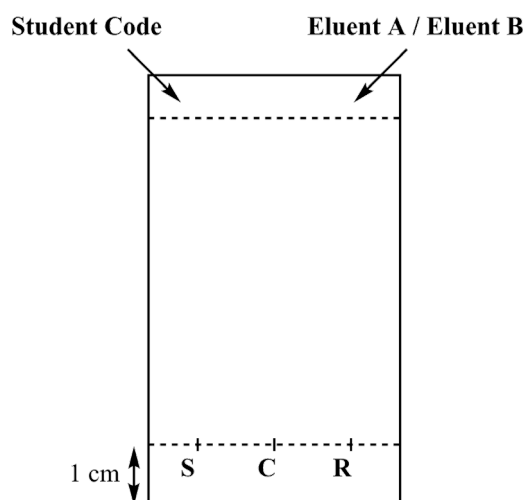

Figure 3. TLC plate preparation
3. Prepare your TLC plate. Use a pencil to draw the start line carefully 1 cm above the bottom of the plate. Mark the positions where you will spot the 3 samples. Label them **S** (TLC standard), **C** (Crude product) and **R** (Recrystallized product), as depicted in Figure 3. On the top left of the plate, write your **Student Code**. On the top right of the plate, write the eluent you use (**Eluent A** on the first plate, then **Eluent B** when you repeat at step 7). Spot the three samples on the plate, using capillary spotters.